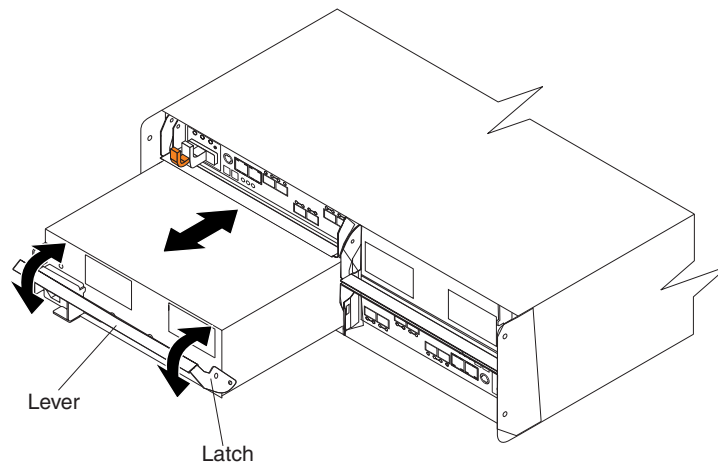

Figure 22. Replacing a power supply and fan unit
1. Slide one power supply and fan unit into the storage subsystem. Be sure to replace the power supply and fan units so that the lever on each power supply and fan unit opens toward the interior of the storage subsystem, as shown in Figure 22. Do not force fit. The power supply and fan unit is designed to prevent it from being inserted into the chassis incorrectly.
**Attention:** Be sure that the lever is pulled straight out as you slide the power supply and fan unit into the storage subsystem, as shown in Figure 22. The left and right power supply and fan units are seated in the DS5020 chassis in opposite orientations. If you cannot fully insert the power supply and fan unit into the power supply and fan unit bay, flip it 180° and reinsert it.